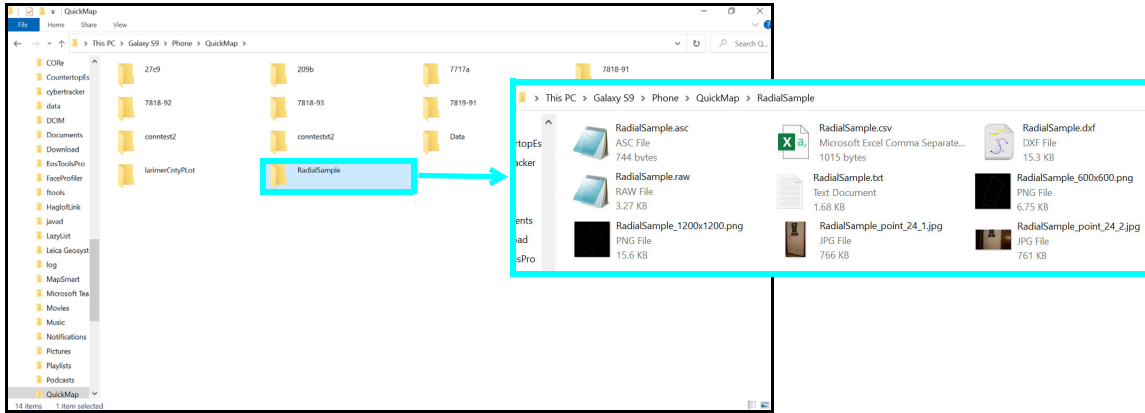

Figure 79
7. Double-click the folder that coincides with the survey name and the saved survey reports will display (Figure 79). Copy any of the individual reports, or copy the entire folder to transfer all the reports for the survey by highlighting them and then right-click/copy with your mouse.